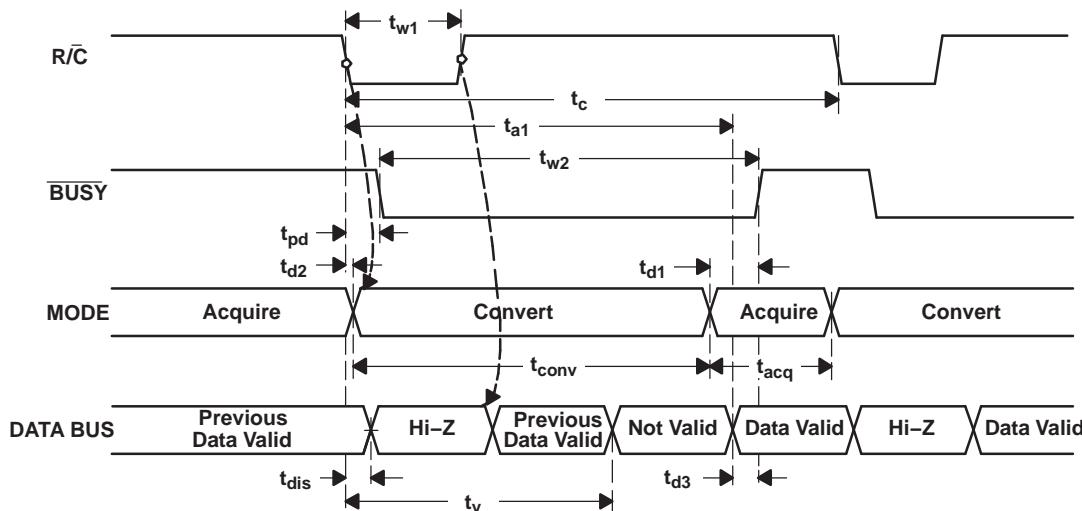
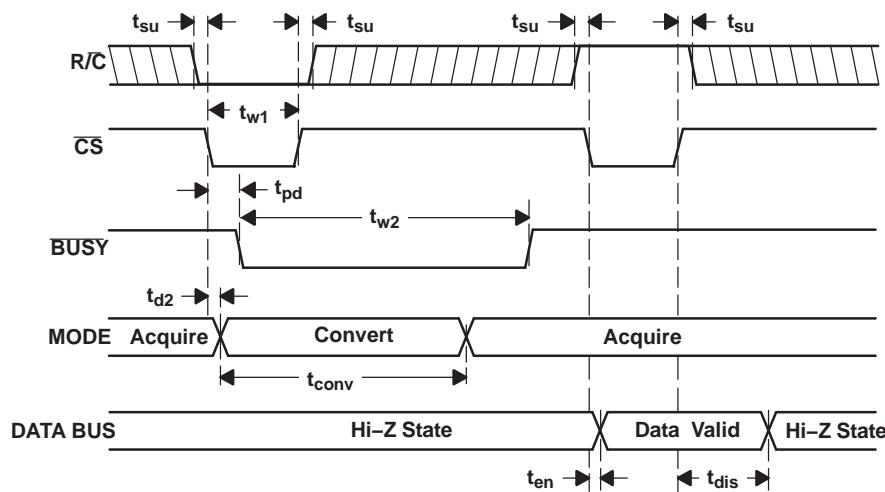

Figure 19. Conversion Timing with Outputs Enabled after Conversion (CS Tied Low)
Figure 20. Using CS to Control Conversion and Read Timing
The ADS8504 begins tracking the input signal at the end of the conversion. Allowing 4  $\mu$ s between convert commands assures accurate acquisition of a new signal. Refer to Table 1 for a summary of CS,  $R/C$ , and  $BUSY$  states and Figure 19, Figure 20, and Figure 21 for the timing diagrams.
(1) See Figure 19 and Figure 20 for constraints on data valid from conversion  $n-1$ .
After conversion  $n$  is completed and the output registers have been updated,  $\overline{\text{BUSY}}$  (pin 26) goes high. Valid data from conversion  $n$  is available on D11-D0 (pins 6-13 and 15-18).  $\overline{\text{BUSY}}$  going high can be used to latch the data. Refer to Table 3 and Figure 19, Figure 20, and Figure 21 for timing specifications.
After conversion  $n$  has been initiated, valid data from conversion  $n-1$  can be read and is valid up to  $t_2$  (2.2  $\mu$ s typ) after the start of conversion  $n$ . Do not attempt to read data from  $t_2$  (2.2  $\mu$ s typ) after the start of conversion  $n$  until  $\overline{\text{BUSY}}$  (pin 26) goes high; this may result in reading invalid data. Refer to Table 3 and Figure 19, Figure 20, and Figure 21 for timing specifications.
The number of control lines can be reduced by tying  $\overline{\text{CS}}$  low while using the falling edge of  $\overline{\text{R/C}}$  to initiate conversions and the rising edge of  $\overline{\text{R/C}}$  to activate the output mode of the converter. See Figure 19.